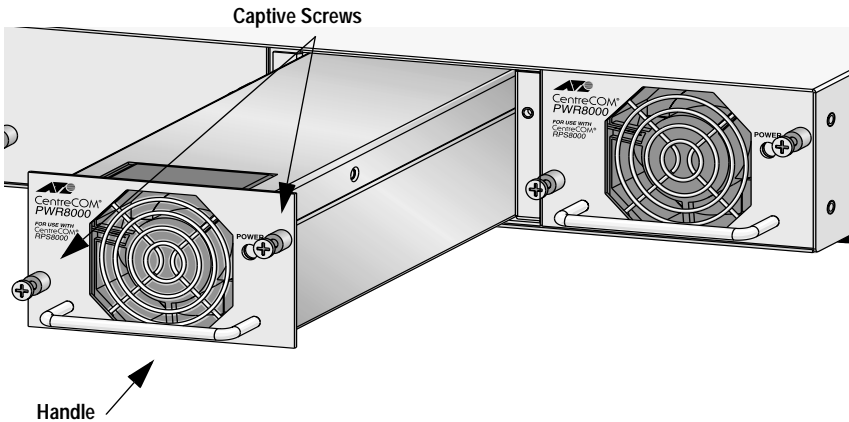

Figure 7 Installing an Additional AT-PWR8000 Module
5. Slide the new AT-PWR8000 module into the AT-RPS8000 unit. Use the handle, shown in Figure 7, to guide the module into the unit.